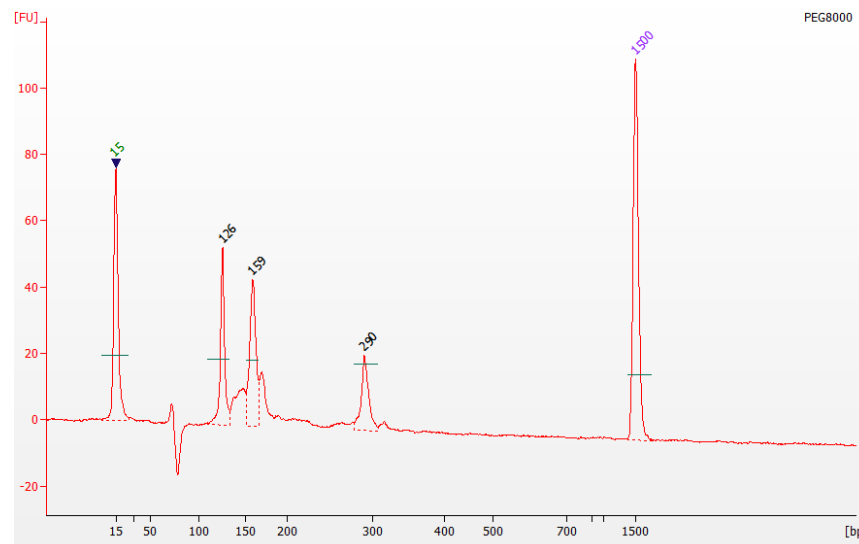

Figure 2. iPCR product prepared from 1 ug of human placental total RNA
- 9.11. Run enriched samples on Agilent DNA 1000 assay to confirm that miRNA is present in each sample prior to pooling and gel purification. A miRNA peak will run at ~159bp on the DNA 1000 chip (Figure 2).